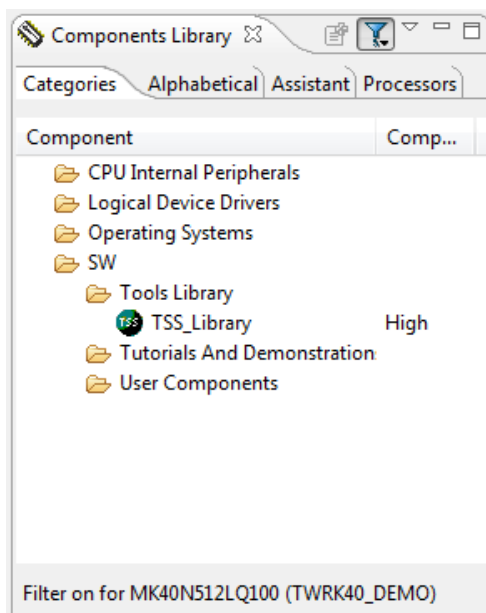

Figure 6-1. Components library window
2. Display the Processor Expert components library by choosing **Processor Expert > Show Views > Components Library**. In the **SW > Tools Library** folder, right-click the TSS_Library, and then select **Add to project**. See Figure 6-1.